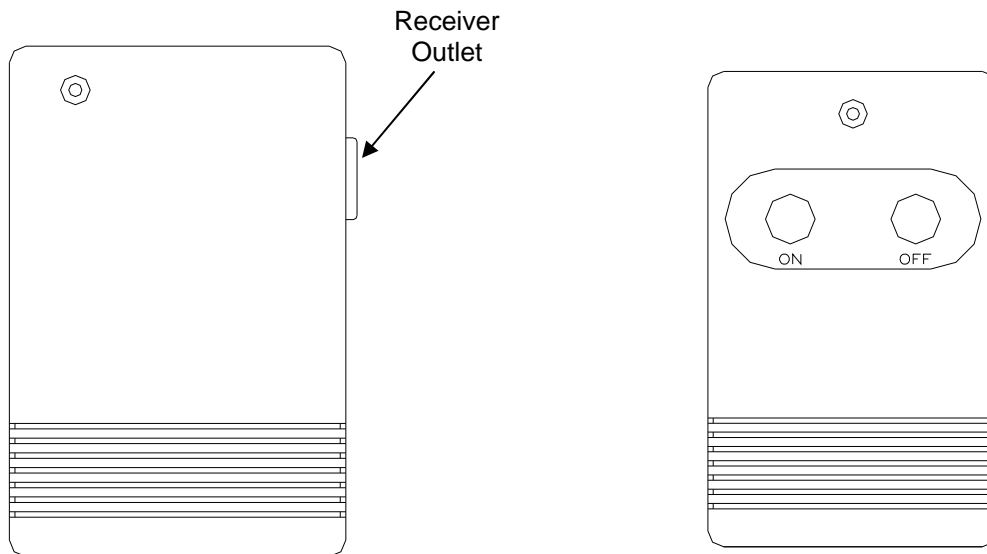

FIGURE 2
1. Plug stove cord set into the outlet located on the side of the receiver. (FIGURE 2)